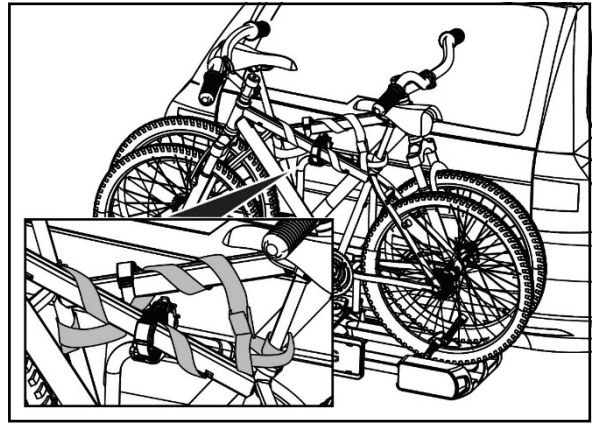

Figure 25: Applying the safety strap
- Before setting off, check the correct and firm positioning of the safety strap around the bicycles and U-shaped bracket of the carrier (Figure 25).